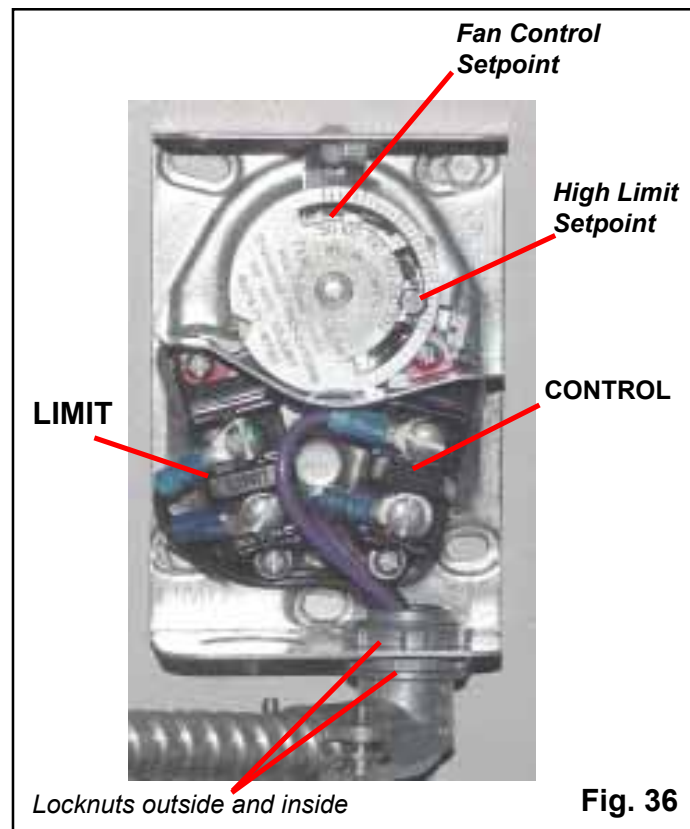

Fig. 36
4. Pry out one of the bottom knockouts of the Fan Control. Install the 90 degree flex connector as shown in Fig. 36. One of the locknuts stays on the outside of the box and one goes on the inside to tighten the connector into place. This allows for maximum room for the wires around the switches.
Figure 36 shown with copper jumper already removed.
6. Connect the two VIOLET wires to the FAN CONTROL switch. (It doesn't matter which wire is on which screw). See Fig. 36.
7. Connect the WHITE and SKY BLUE wires to the LIMIT switch. (It doesn't matter which wire is on which screw). See Fig. 36.
10. FAN CONTROL setup: Move both fan control pointers together until they touch, then rotate both pointers together until the gap between them is directly over the middle 0 of 100. See Fig 36.